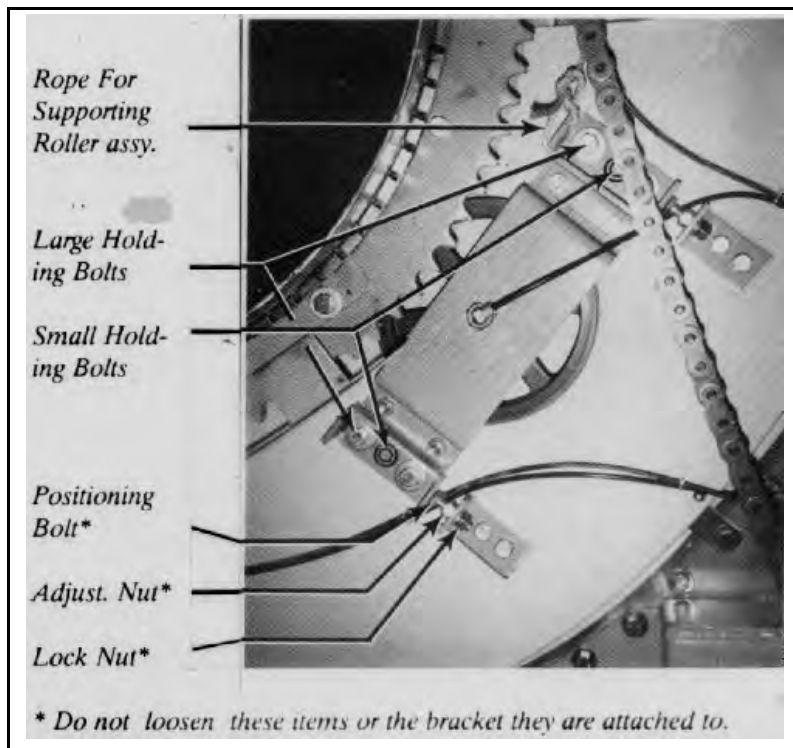

Figure 2 (MSSMD407AE)
2. Referring to Figure 2, next page, attach one end of a rope to the roller bracket and run the other end over the top interconnecting frame. Secure the rope (**not on the temp controller bracket**).
CAUTION: The support roller will be removed in the next step. **Do not** loosen or remove the positioning bolts, adjusting nuts, lock nuts or the bracket they are attached to. (See Figure 2). These items are not part of the Support Roller Assembly and must be left tightly attached to the shell. The positioning bolts were adjusted at the MILNOR factory and must remain as originally adjusted to insure proper alignment of the support roller when it is replaced.
4. Remove all the holding bolts. (See Figure 2.) Check for washers between the roller and the shell front and keep track of washer positions.
NOTE: The Small Holding Bolts identified in Figure 2 were only used on some older machine models. If your machine has these bolts, remove them. They will not be replaced.